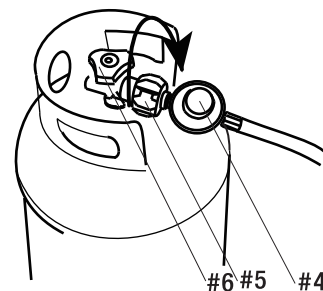

Fig. 5
- Connect the pressure regulator (#4) to the tank by rotating the knob (#5) clockwise until it is fully secured. (Fig.5)